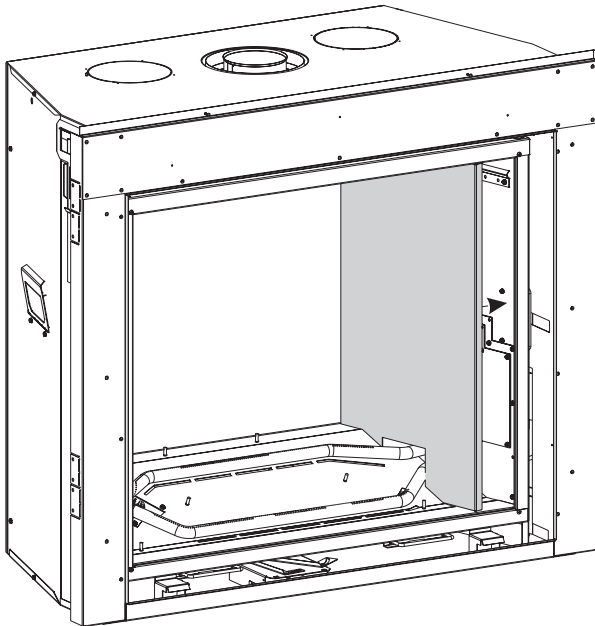

Figure 3
2. Place LINER SIDE- RIGHT against right firebox wall and LINER REAR and push back to hold into place. Repeat for LINER SIDE - LEFT. See Figure 3.